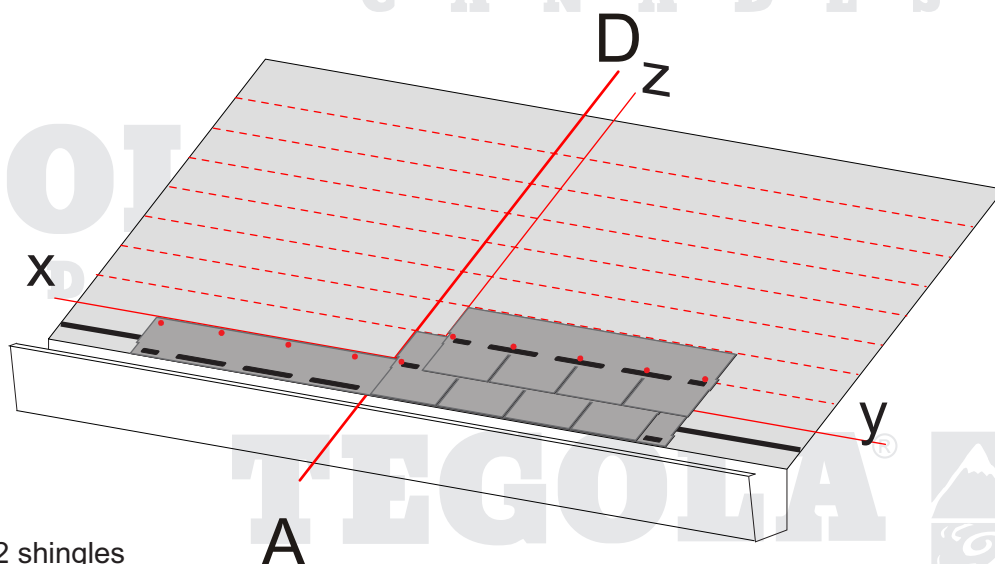

Fig. 4 - Sequence of 2 shingles
- " Install the first row of shingles along the line AD (Fig. 4).
- " Install the second row of shingles along the line z (Fig. 4).